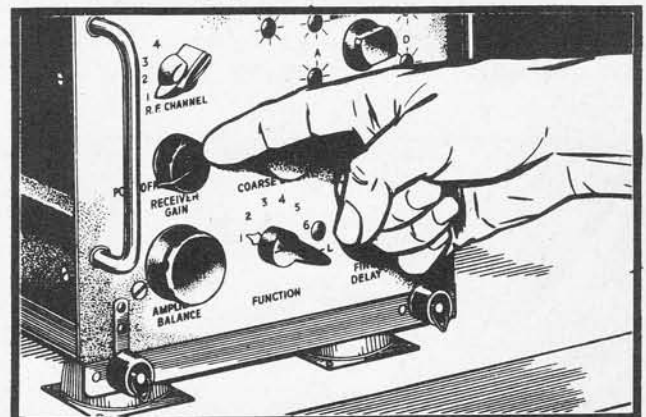

Figure 2-1
b. PRELIMINARY CHECK. — Figures 2-1 through 2-5 are power supply voltage checks.